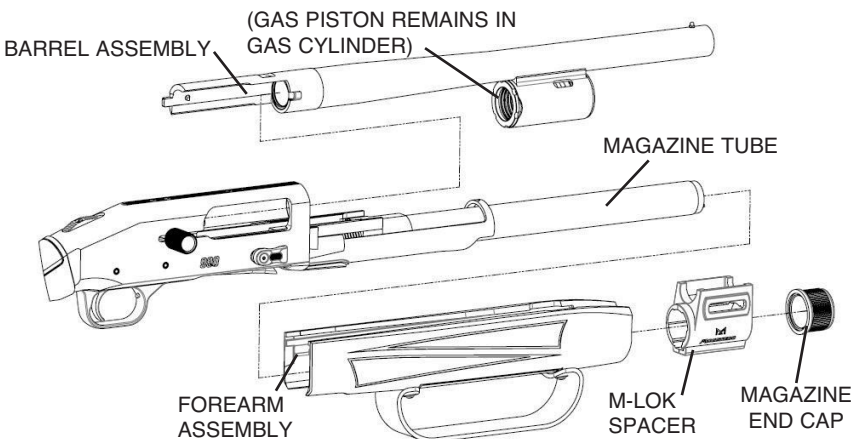

Figure 10A
4. Pull the barrel forward, free of the receiver and magazine tube. Ensure the gas piston remains in the gas cylinder or the barrel will bind (Figure 10A).
The gas system includes the magazine tube, gas piston assembly and gas cylinder portion of the barrel (Figure 10A and 10B). These parts should be thoroughly cleaned using a solvent. A stiff brass bristle brush is useful for removing stubborn deposits on the gas piston assembly, magazine tube and gas cylinder.